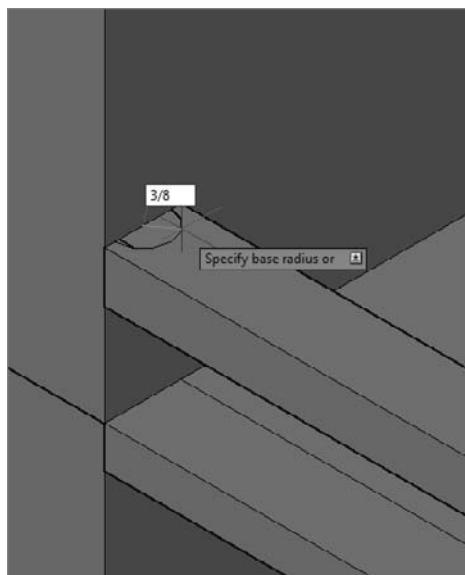

FIGURE 16.56 Creating the first railing post cylinder
6. At the **Specify center point of base or:** prompt, click the midpoint of the first lower railing that you drew where it meets the exterior wall, and enter **3/8.J (9.5.J)** for the radius (see Figure 16.56).